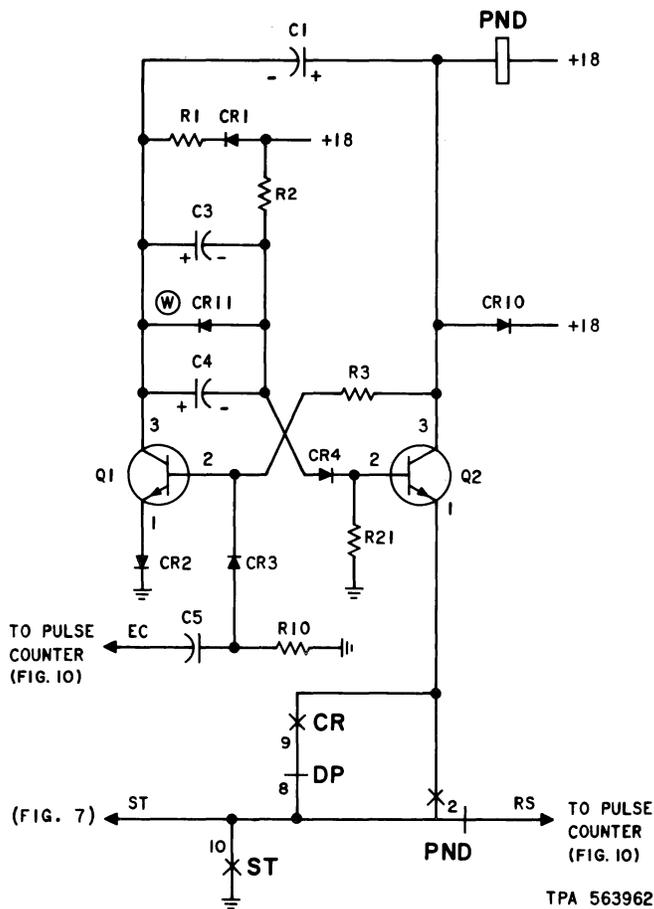

Fig. 11—Interdigit Timer—Schematic Diagram
4.13 The interdigit timer and dial-pulse generator share the circuitry of CP AS11. Figure 11